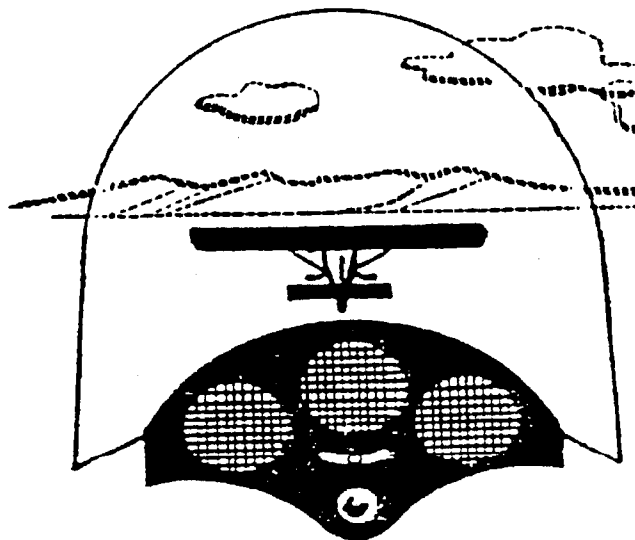

FIGURE 6-1
a. Figure 6-1 shows the proper wings level aerotow position. The sailplane is at the tow plane's six o'clock, matching the tow's altitude and bank angle (0°). From your perspective in the sailplane, the tow plane's wings are on the horizon, and you're sighting directly down the vertical stabilizer. If the picture looks different, you're out of position.